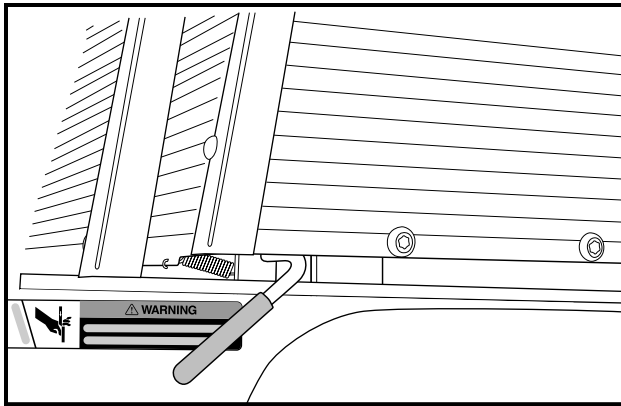
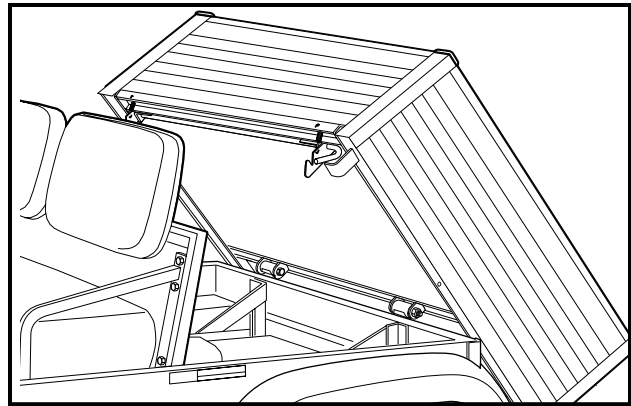

Figure 12 Pioneer 1200SE Bed Latch
Figure 13 Pioneer 1200SE Raised Bed
The bed latch (**Figure 12**) releases the bed. To lift the bed, push down on the latch handle while lifting up on the bed. The bed is balanced so as to stay in a raised position automatically (**Figure 13**). To close the bed, lower it gently until the bed latch engages. **DO NOT** drop the bed. See following **WARNING**.
- Turn fuel shut-off valve to the closed (OFF) position (Figure 12, Page 23).